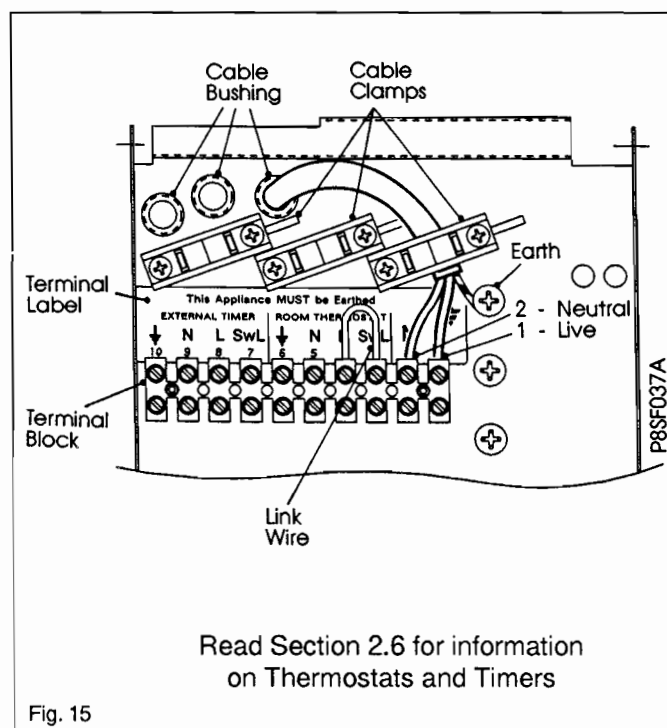

Fig. 15
2.6 Wiring the Appliance (See Fig.15)
- Using PVC insulated cable of not less than 0.75 mm². (24/0.2mm to BS 6500 Table 16), wire up the panel referring to the termination label. (See Fig. 15)